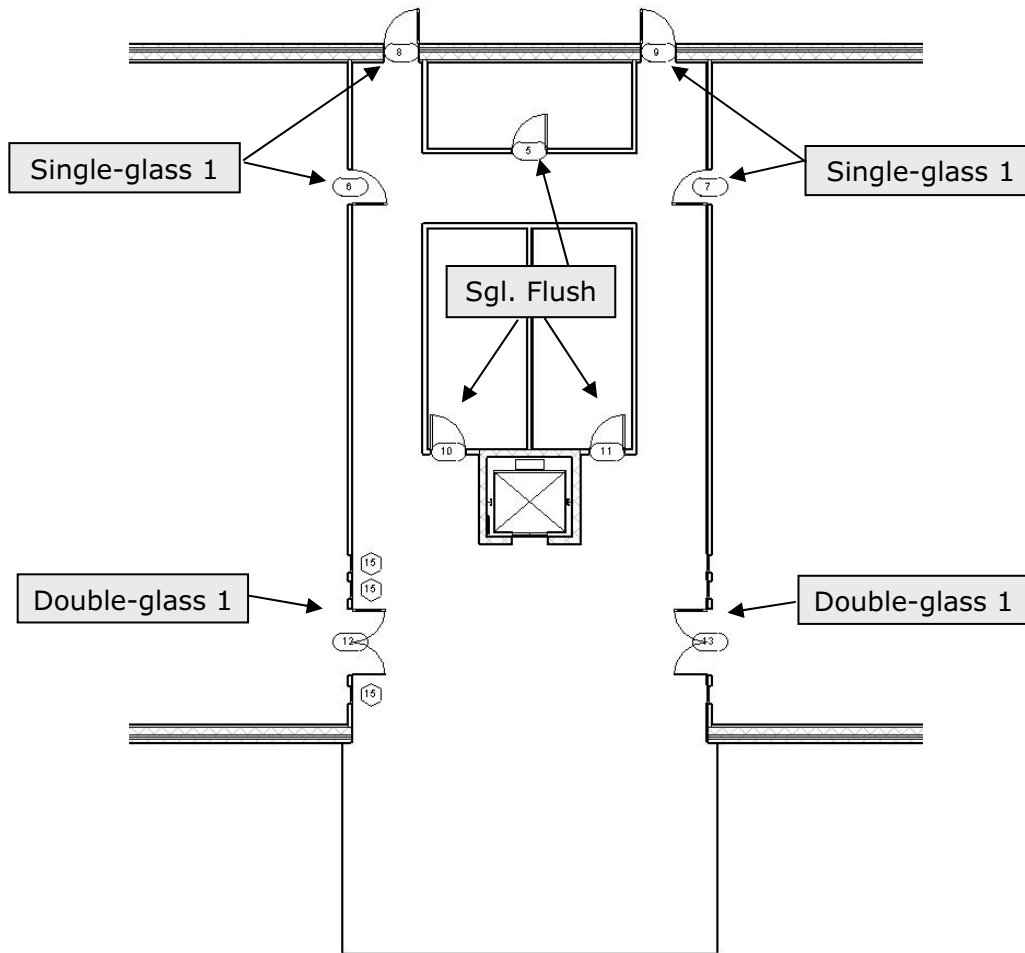

Figure 3-5.5 First floor with doors
10. Finish inserting doors for the first floor (Figure 3-5.5). Use the following guidelines:
- c. Use the style and approximate location shown in Figure 3-5.5.